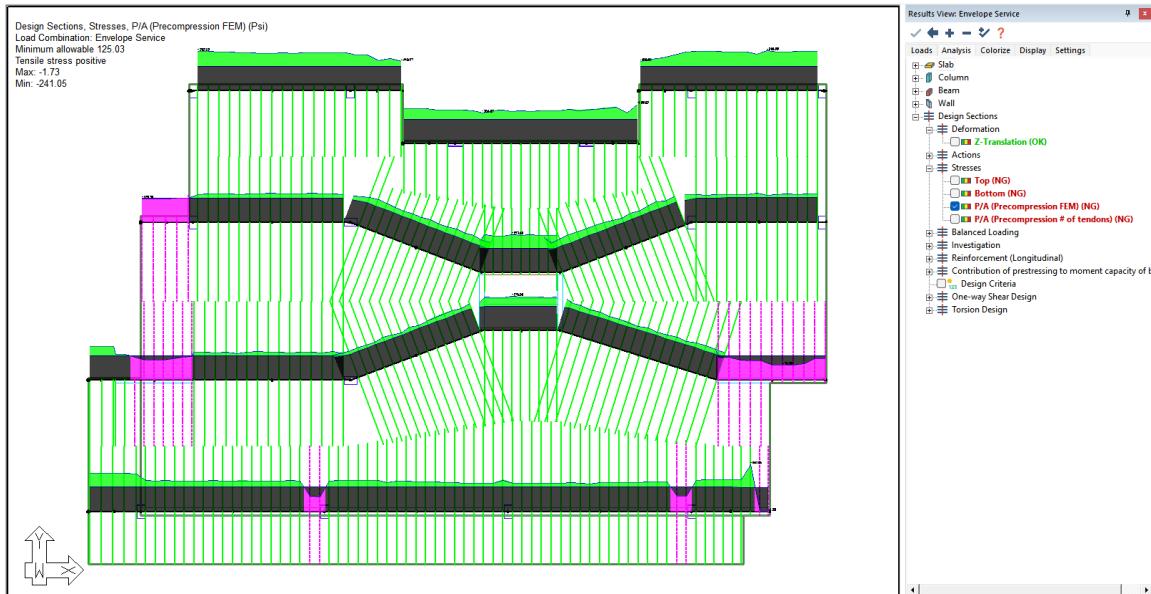

FIGURE 9-92
- The user should now see the precompression values along the X-direction support lines as shown in **FIGURE 9-92**.